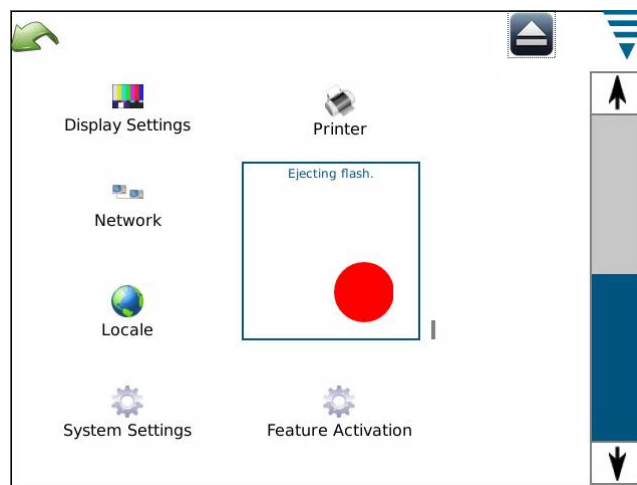

Figure 10
3. If the files are still being copied, a small Wait dialog with the message, "Ejecting flash." will be displayed until the files are copied. See Figure 10. Wait until the message, "It is safe to remove the flash drive." is displayed before removing the flash drive.